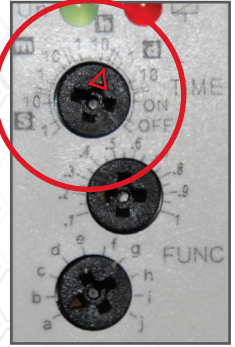

Fig. 1
3. Push and hold the “TEST” button on the front of the control panel for five (5) seconds to verify that the audible alarm sounds and the LED blinks.
4. Turn the top dial of the timer counterclockwise from the **10h** (Fig. 1) to the **10s** (Fig. 2) band. The leg of the cross with the arrow (highlighted in red) points to the band.
6. Reset the thermostat set-point dial (red) to the factory default of 60°F and reset the top dial of the timer to the **10h** (Fig. 1) band.